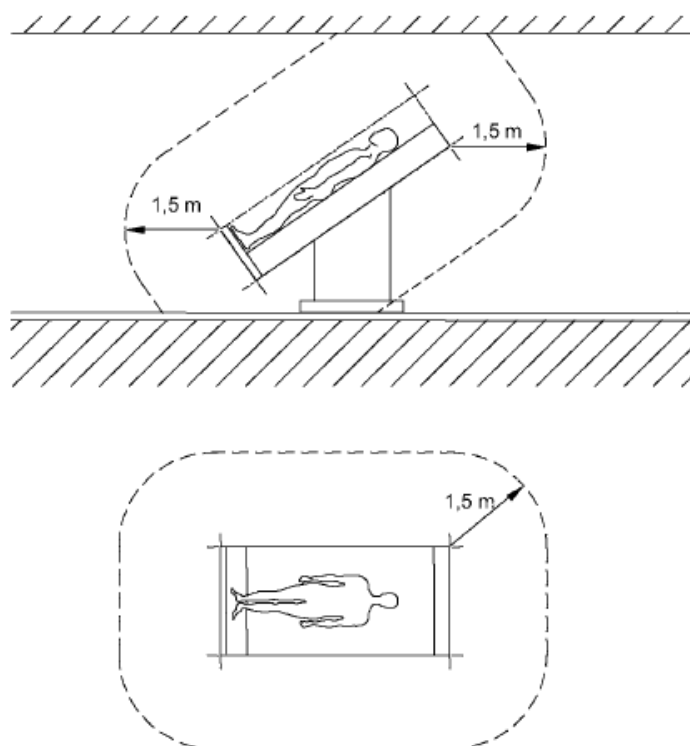

Fig. 1 Minimum extent of the PATIENT ENVIRONMENT
- Using a flat-nosed tool and taking care not to damage the paint on the top covers, remove the bottom covers of the downpipes ①, these are press-fitted. See figure 1.
- Now move the upper covers of the main body ②, which are also press-fitted, by hand, first in the direction of the main body and, once the side wall has been cleared, by pulling them upwards. See figure 1.